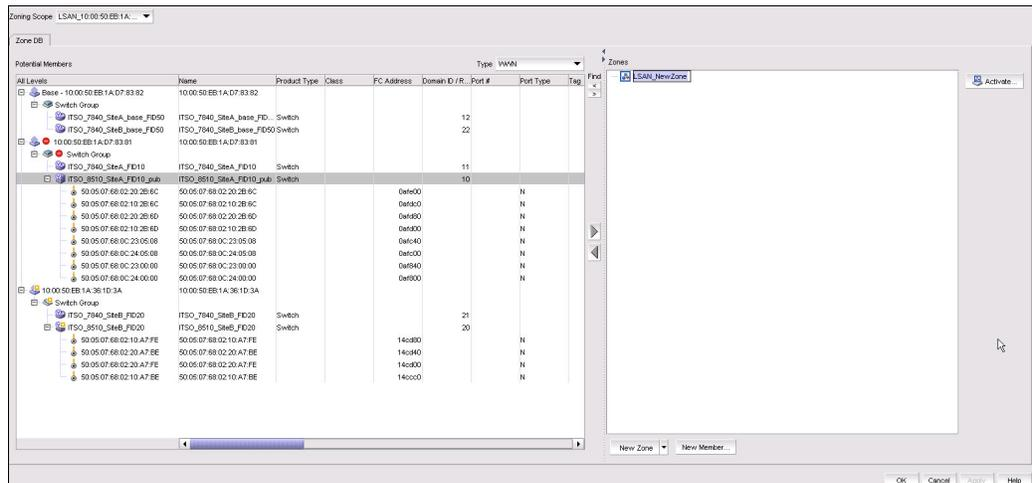

Figure 6-51 LSAN Zoning window
2. The Zoning window is displayed (Figure 6-51).